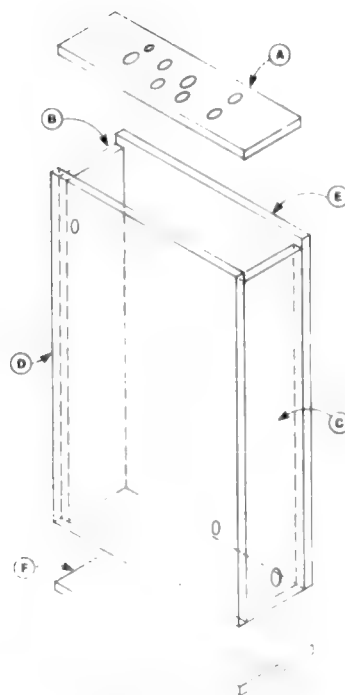

Figure 4. Assembly of the box.
To assemble the box, only panels from B to F are used, the lid (A) will be dealt with separately later on. The glue used was five minute quick dry Epoxy. The five pieces are glued together as shown in Figure 4. Check that the box is not tilted or twisted in any way. A right-angled ruler would help to get this right. Leave the box like that overnight to allow the epoxy to acquire its full strength. Next, smooth the box with sand paper. Use a coarse grade until the joints between panels are smooth, then finish off